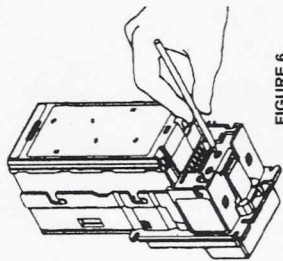

FIGURE 6
3. Locate the service button on the back of the unit (refer to Figure 6). Depress the button once to enter coupon setup mode. Depressing again will exit the mode.